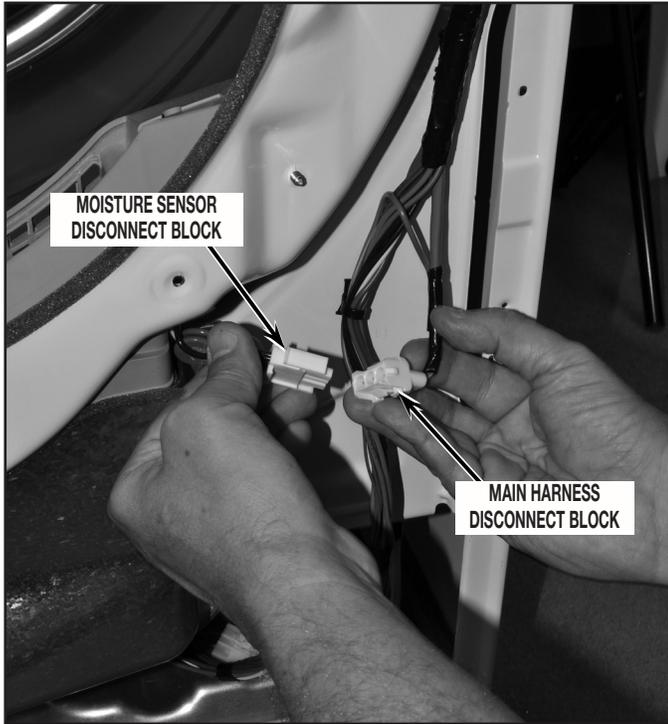

FIGURE 12
16. Disconnect moisture sensor disconnect block from main harness disconnect block located at lower right side of dryer. See *Figure 12*.